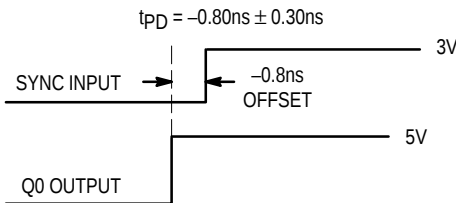

Figure 2. Depiction of the Fixed SYNC to Q0 Offset (t_{PD}) Which Is Present When a 1MΩ Resistor Is Tied to V_{CC} or Ground
2. A 1MΩ resistor tied to either Analog V_{CC} or Analog GND, as shown in Figure 2, is required to ensure no jitter is present on the MC88916 outputs. This technique causes a phase offset between the SYNC input and the Q0 output, measured at the pins. The t_{PD} spec describes how this offset varies with process, temperature, and voltage. The specs were arrived at by measuring the phase relationship for the 14 lots described in note 1 while the part was in phase-locked operation. The actual measurements were made with a 10MHz SYNC input (1.0ns edge rate from 0.8V to 2.0V). The phase measurements were made at 1.5V. See Figure 2 for a graphical description.